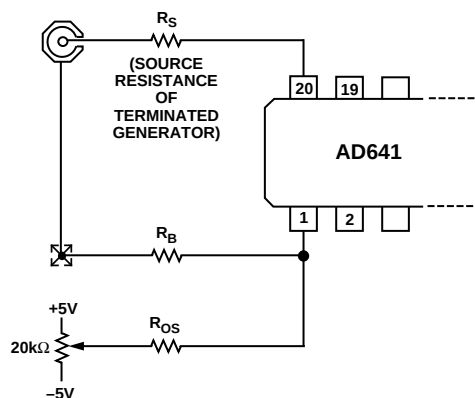

Figure 25. Optional Input Offset Voltage Nulling Circuit; See Text for Component Values
In most applications there will be no need to use any offset adjustment. However, a general offset trimming circuit is shown in Figure 25. R_S is the source resistance of the signal. *Note: 50 Ω rf sources may include a blocking capacitor and have no dc path to ground, or may be transformer coupled and have a near zero resistance to ground.* Determine whether the source resistance is zero, 25 Ω or 50 Ω (with the generator terminated in 50 Ω) to find the correct value of bias compensating resistor, R_B , which should optimally be equal to R_S , unless $R_S = 0$, in which case use $R_B = 5$ Ω . The value of R_{OS} should be set to 20,000 R_B to provide a ± 250 μV trim range. To null the offset, set the source voltage to zero and use a DVM to observe the logarithmic output voltage. Recall that the LOG OUT current of the AD641 exhibits an *absolute value response* to the input voltage, so the offset potentiometer is adjusted to the point where the logarithmic output "turns around" (reaches a local maximum or minimum).
R4 is identical to R2, and in shunt with R3 ($270\ \Omega$ thin film) forms a $27\ \Omega$ resistor with the same TC as the output resistance of the attenuator. By connecting Pin 1 to ATN LOW (Pin 2) this resistance minimizes the offset caused by bias currents. The offset nulling scheme shown in Figure 25 may still be used, with the external resistor R_B omitted and $R_{OS} = 500\text{ k}\Omega$. Offset stability is improved because the compensating voltage introduced at Pin 20 is now PTAT. Drifts of under $1\ \mu\text{V}/^\circ\text{C}$ (referred to Pins 1 and 20) can be maintained using the attenuator.
Cascaded AD641s can be used in dc applications, but input offset voltage will limit the dynamic range. The dc intercept is 6 μ V. *The offset should not be confused with the intercept*, which is found by *extrapolating* the transfer function from its central "log linear" region. This can be understood by referring to Equation (1) and noting that an input offset is simply additive to the value of V_{IN} in the numerator of the logarithmic argument; it does not affect the denominator (or intercept) V_X . In dc coupled applications of wide dynamic range, special precautions must be taken to null the input offset and minimize drift due to input bias offset. It is recommended that the input attenuator be used, providing a practical input range of -74 dBV (± 200 μ V dc) to $+6$ dBV (± 2 V dc) when nulled using the adjustment circuit shown in Figure 25.